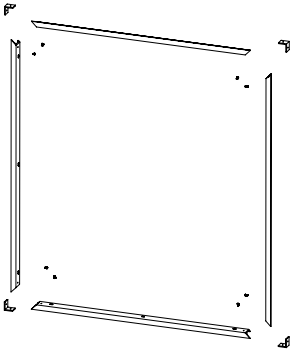

Fig 7.
2. Assemble the new trim set using the four supplied corner brackets and screws, ensuring the angled joints are tight and closed. *See Fig 7 & 8.*